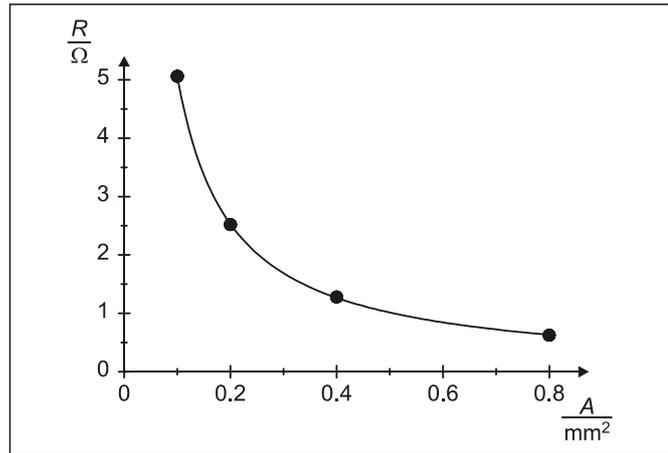

Fig. 5: Dependence of the resistance  $R$  on the cross-sectional area  $A$  for a 1 m long constantan wire
The dependence of the resistance on the cross-sectional area of the wire is displayed graphically in Fig. 5 with the values from Table 4. The curve drawn in the figure obeys – in agreement with Equation (II) – the equation